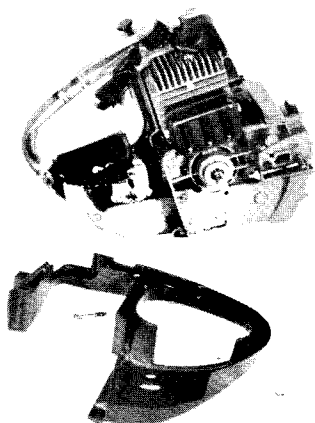

Fig. 11 — Cylinder Frame and Handle Removed
4. Remove four screws and remove cylinder frame and handle, Fig. 11.
17. Position switch and throttle lever and install frame and handle, Fig. 11.